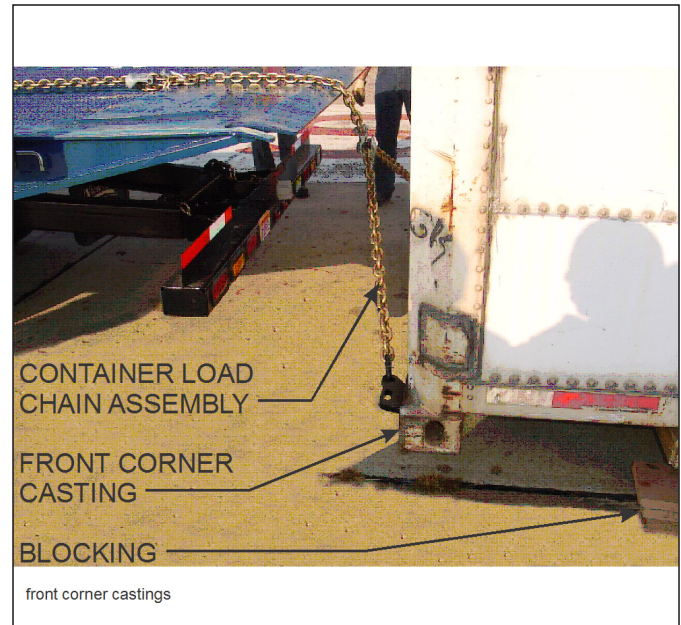

Figure 3-3: Front Corner Castings
14. Check the container to be loaded to see if the container front corner castings are an inch or so off the ground. If they are not, the container will have to be lifted first and blocks placed a few inches behind front of container to keep container an inch or so off the ground (**See Figure 3-3.**)